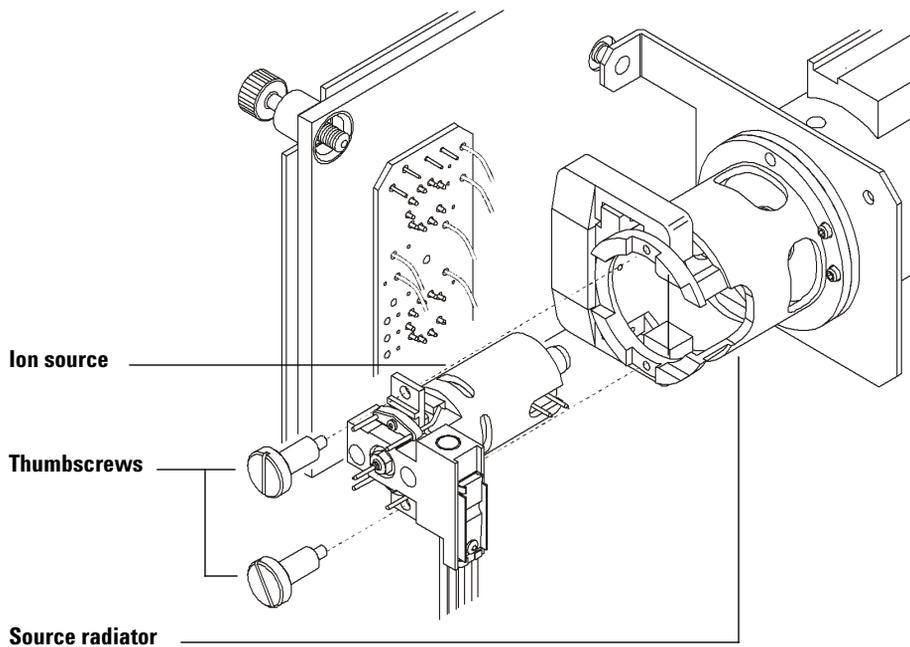

Figure 30 Installing the EI ion source
- 1 Slide the ion source into the source radiator (Figure 30).